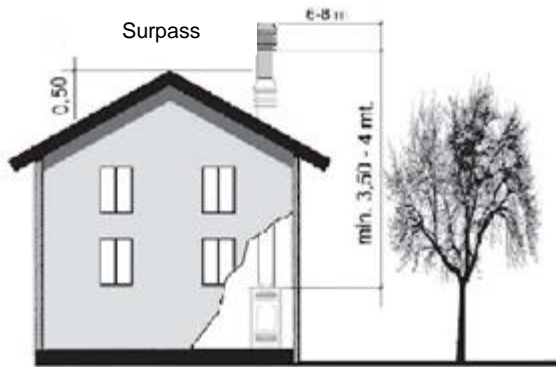

Fig. 5.9
- The cowl must be installed to ensure the adequate dispersion and dilution of the combustion products outside the reflux area. For this we will use a cowl windproof type and it will surpass the ridge height (*see fig. 5.9*).